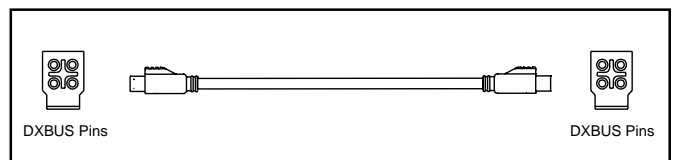

Figure 4.43. Bus Cables
3. If the status light is not flashing, locate and remove the two Bus cables. See figure 4.43. One Bus cable will connect the joystick to the TAM module, the other will connect the TAM module to the utility tray assembly. Set the multimeter to measure resistance and test for continuity through each pin of the Bus cable. The reading should indicate less than one ohm of resistance when measuring from pin 1 to pin 1, pin 2 to pin 2, pin 3 to pin 3, and pin 4 to pin 4 of the Bus cable. As you are performing this test, bend the cable to ensure that there is not a connection problem.